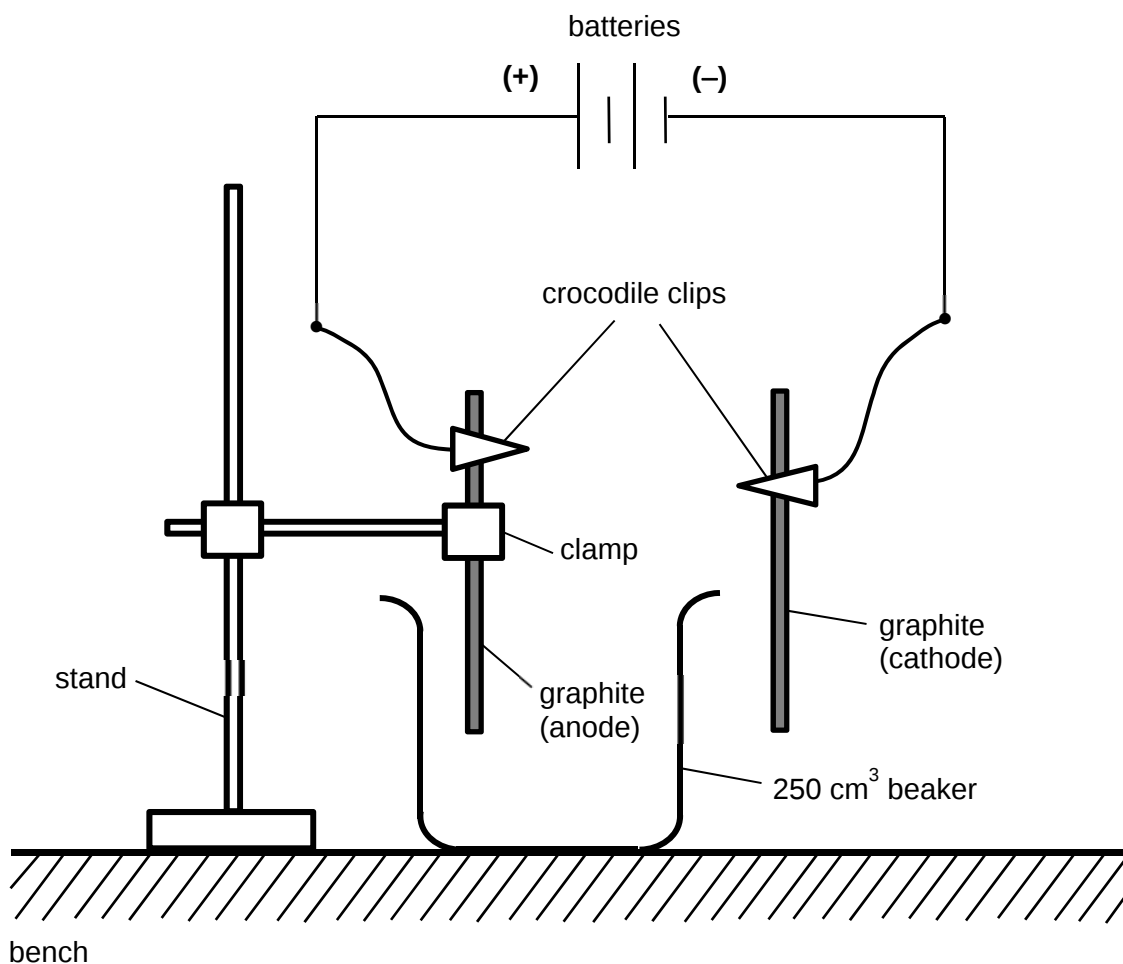

Fig 3.1
1. Set up the apparatus and circuit as shown in Fig. 3.1.